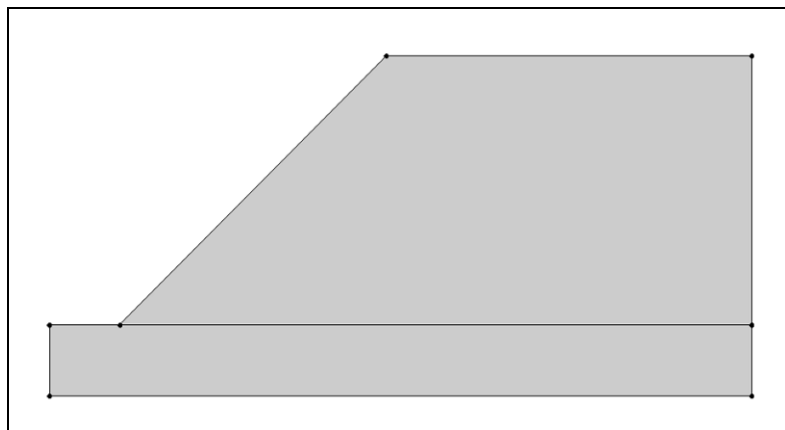

Figure 1. The basic slope.
10. Using Figure 1 as a guide, click on the points to connect them with arcs to create the slope.
At this point you should see something like Figure 1 below.